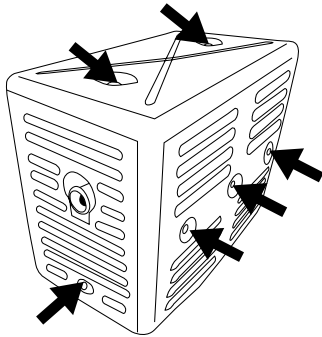

Figure 15: Remove screws holding muffler cover
3. Remove the 6 screws holding the muffler cover in place (see Figure 15).